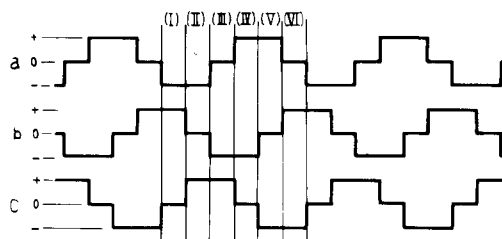

Fig. 10
2. These signals are step waves as shown in Fig. 10, with relative phase differences of  $120^\circ$  between them.